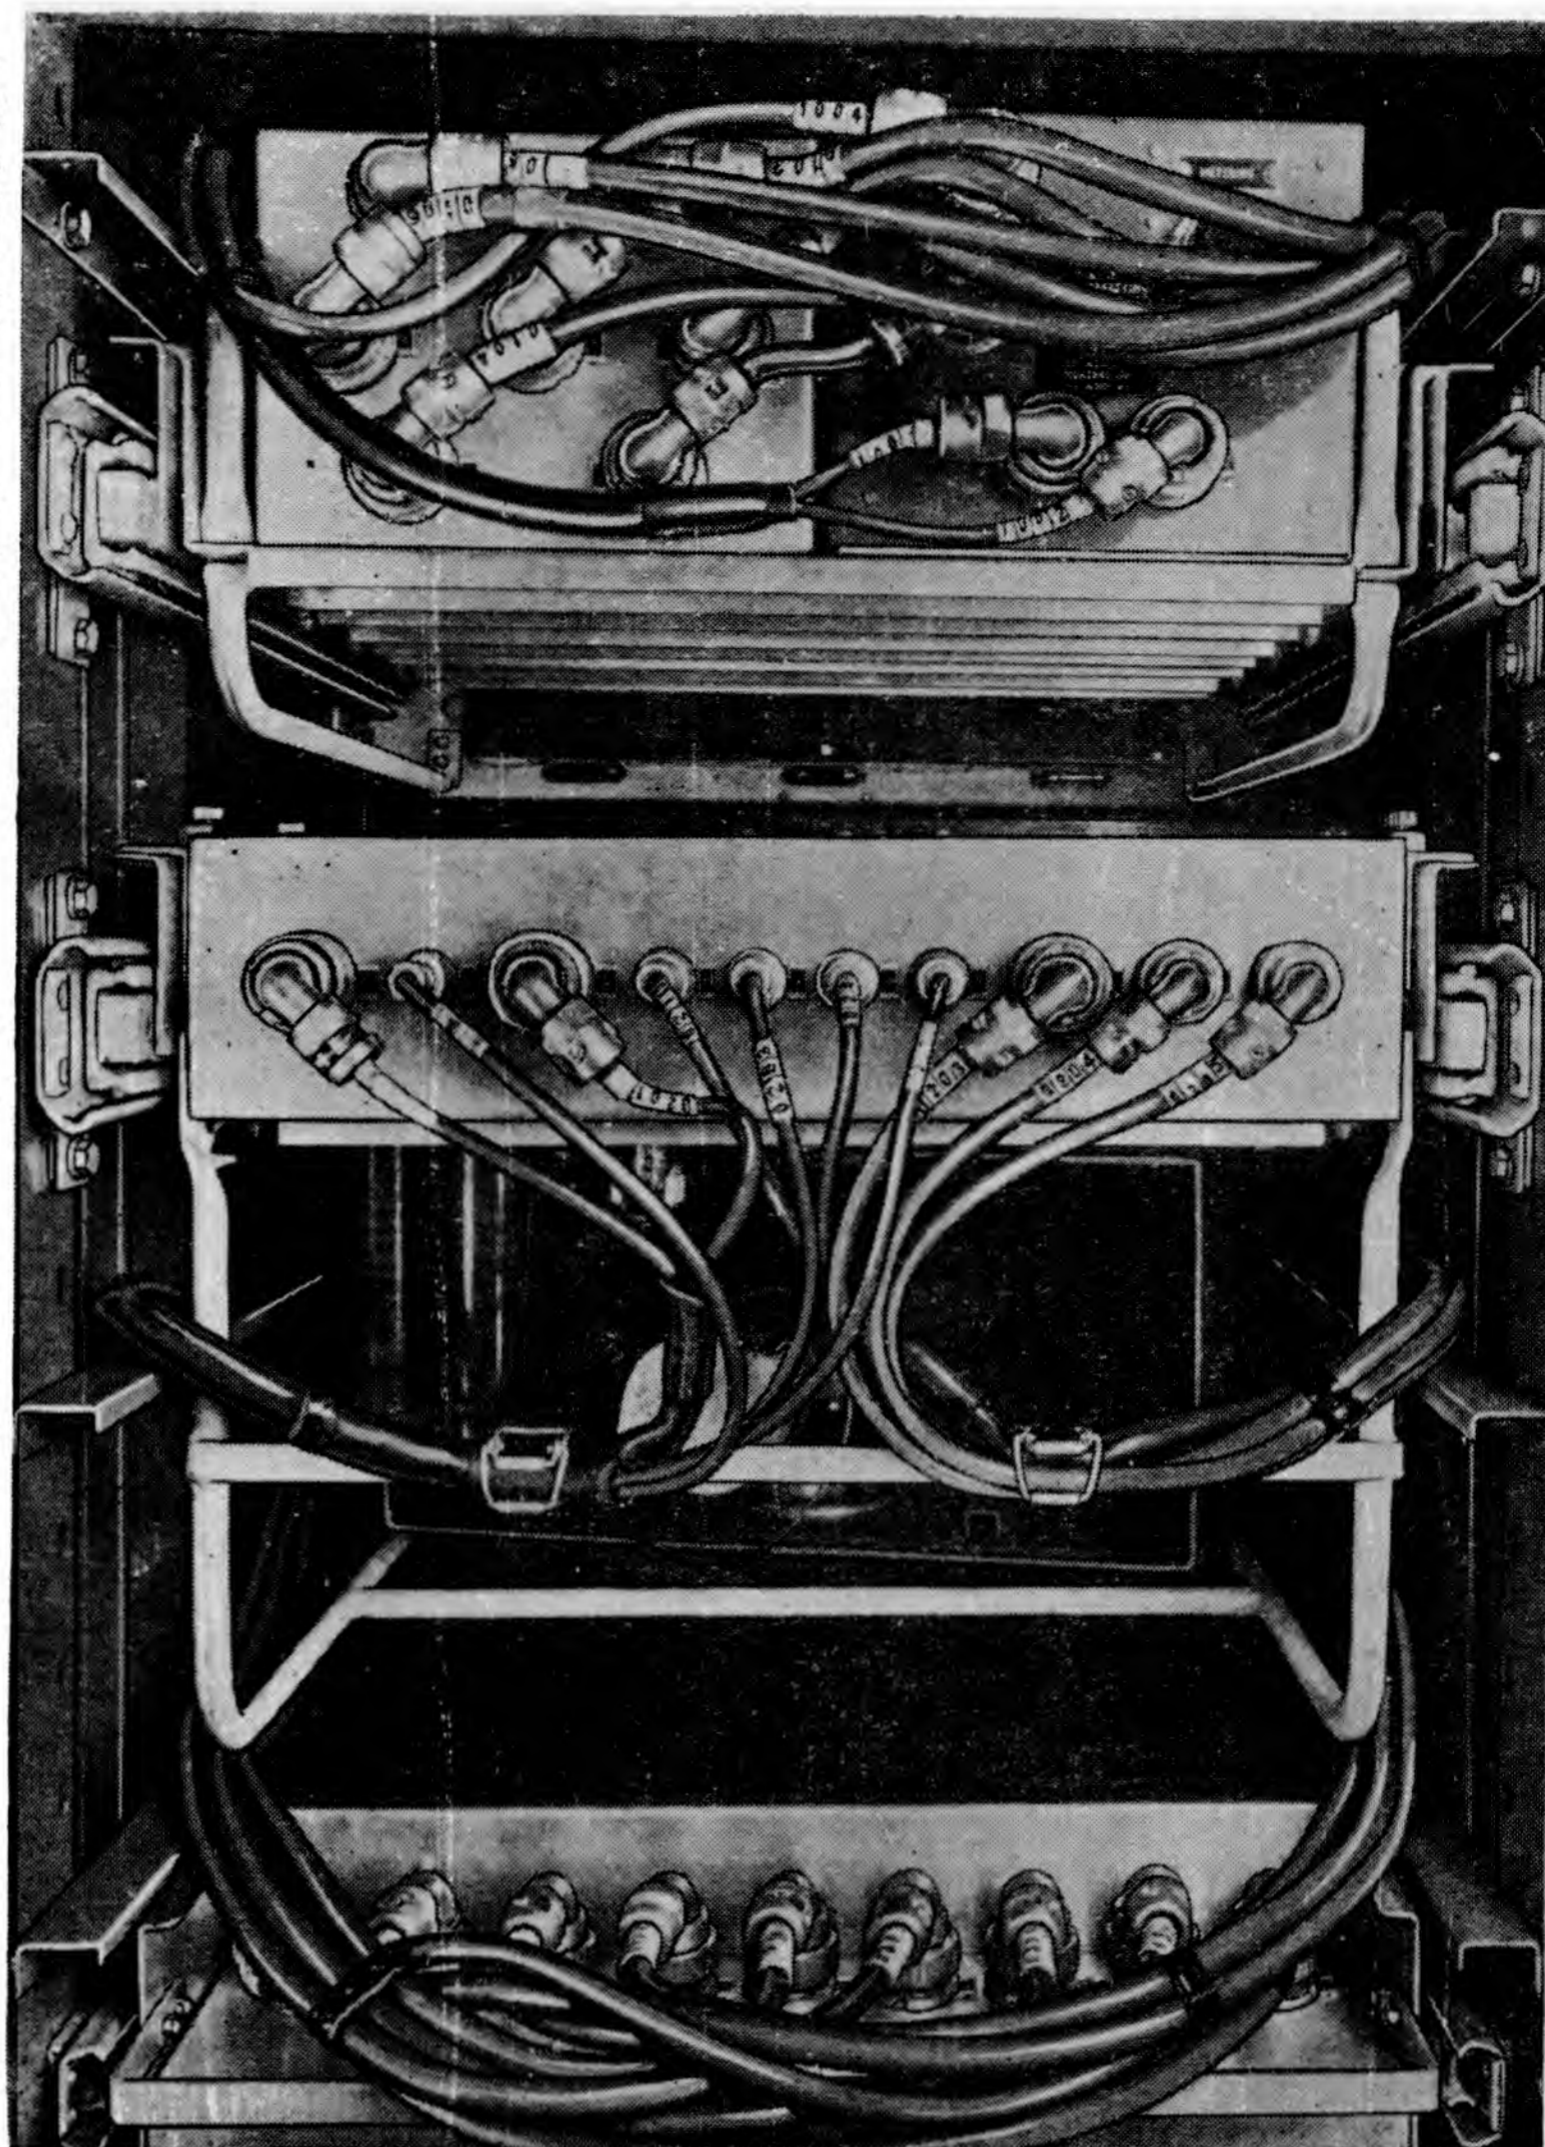

Fig. 4. RA339—upper units pushed in
10. *Fig. 4* gives a close-up view of the upper half of the rack with the units pushed fully home. It is again apparent that no straining occurs and no cables are trapped. *Fig. 5* illustrates the way in which cables from the right-hand side of the rack go to the left-hand side of the panel Type 890 (at the top of the picture) and vice-versa. The illustration also provides details of the interweaving of the cabling to the amplifying unit (video) Type 515. This is illustrated further in *fig. 6*, which shows the lower units of the rack pushed home. Only one power unit Type 4065 is included in this view, because the cabling for the other looks the same.